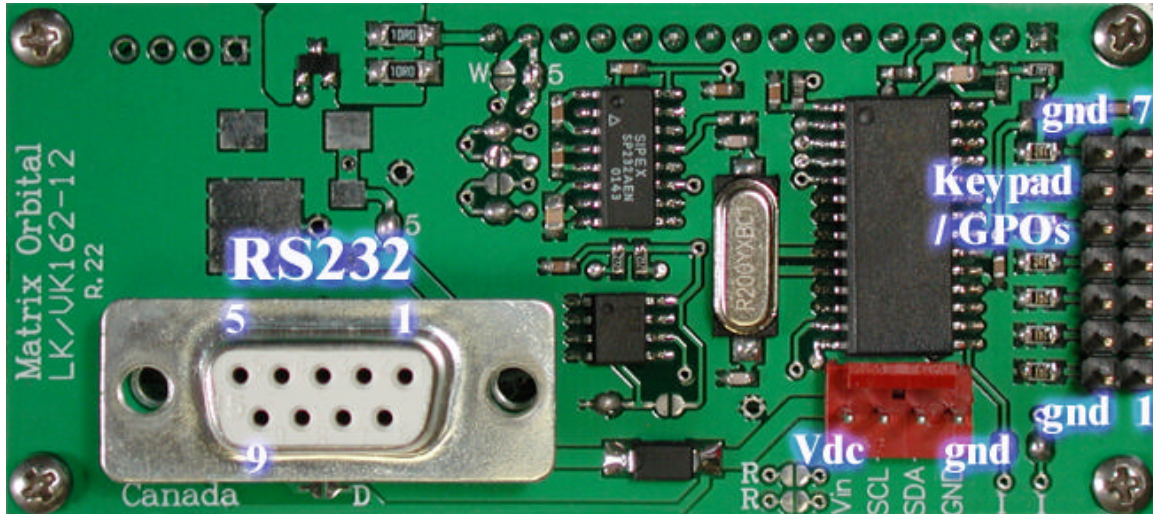

Figure 2-1 Electrical Connections
1. Refer to the diagram above and Figure 2-1 for the following steps.
Power is applied via pins 1 and 4 as shown in Figure 2-1. Power requirement for standard units is +5 VDC \pm 0.25V (units with the wide voltage range option require 7 – 15 Vdc). Power may also be supplied via the RS-232 connector.